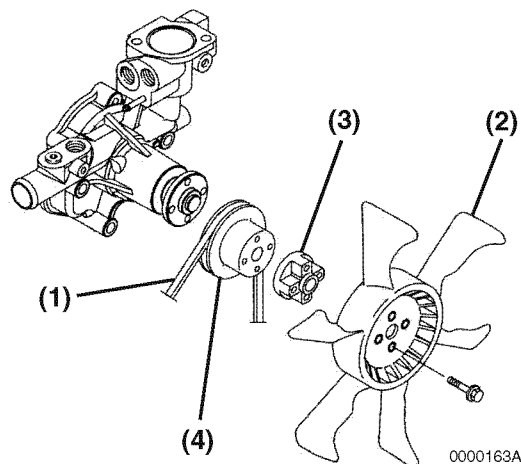

Figure 7-35
13. Reinstall the coolant pump V-pulley (**Figure 7-35, (4)**), spacer (**Figure 7-35, (3)**) (if equipped) and engine coolant fan (**Figure 7-35, (2)**).
14. Reinstall the cooling fan V-belt (**Figure 7-35, (1)**). Adjust it as described in *Check and Adjust Cooling Fan V-Belt on page 5-10.*